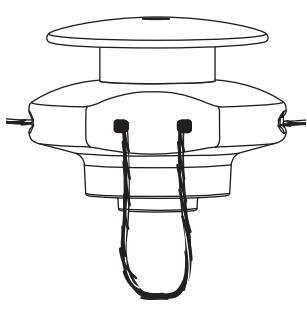

Fig. 20
2. Push the ends through until they stick out of the sides of the head (Fig. 20).